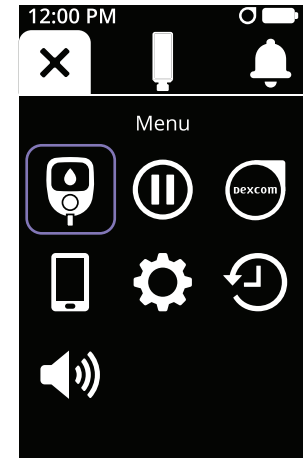

Figure 91
- Tap the **Enter BG** icon (see Figure 91).